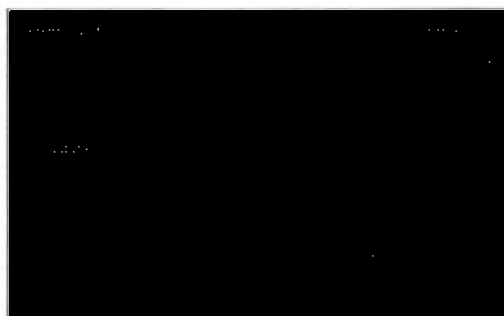

Fig. 47: User data dialog box
⇒ The user data dialog box opens (Fig. 47). Now you can edit the user data.
57. **Figure 47**